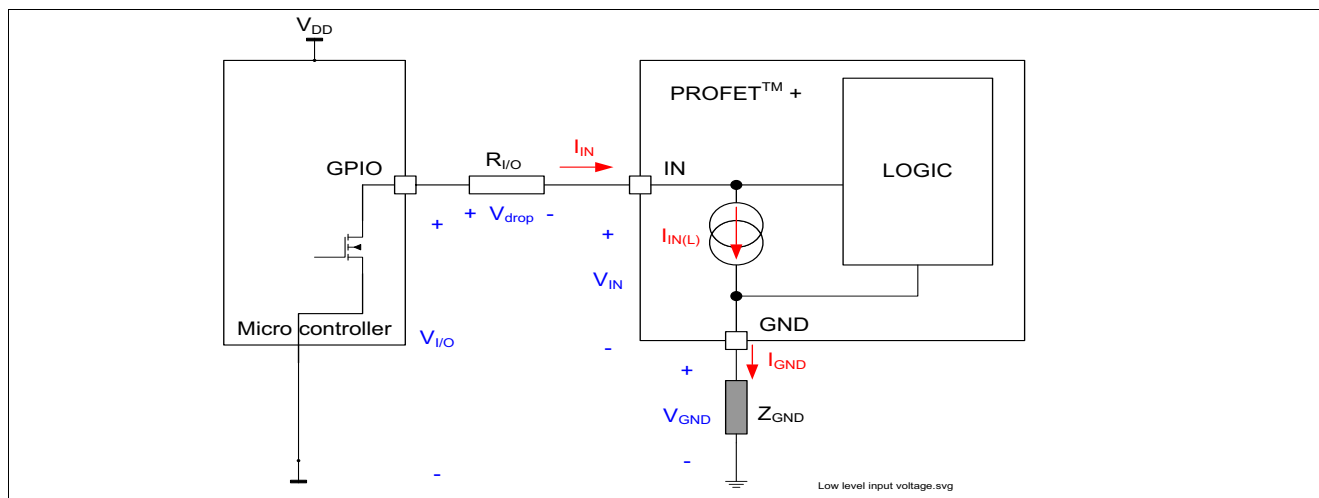

Figure 86 Low level Equivalent Circuit
With an input signal in this region, the digital circuitry will determine the input to be a low logic level and thus will turn the output OFF or keep it OFF. The application must ensure that the maximum voltage applied to the input pin is lower than the $V_{IN(L)_{MAX}}$ voltage to guarantee an OFF condition. As a good reference, Infineon consider $V_{IN(L)_{MAX}} = 1.1V$. Refer to **Figure 86** for details.
The equivalent circuit is described in **Figure 86** where the V_{IOmin} value defined by **Equation (18)** must be guaranteed.